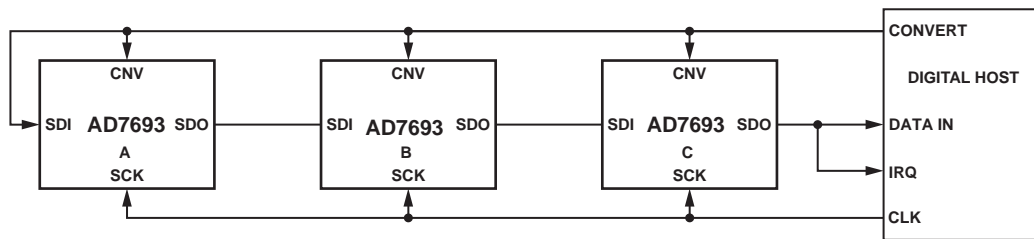
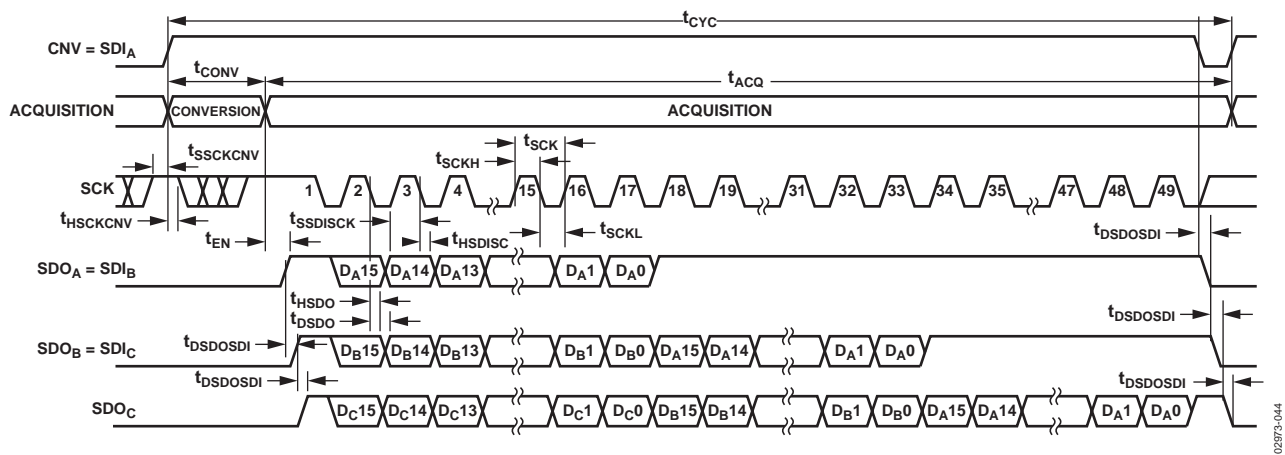

Figure 28. Chain Mode with BUSY Indicator Connection Diagram
Figure 29. Chain Mode with BUSY Indicator Serial Interface Timing
- In the chain mode, if SCK is high during the CNV rising edge (Figure 29).
A connection diagram example using three AD7693s is shown in Figure 28 and the corresponding timing is given in Figure 29.
subsequent data readback. When all ADCs in the chain have completed their conversions, the nearest ADC (ADC C in Figure 28) SDO is driven high. This transition on SDO can be used as a BUSY indicator to trigger the data readback controlled by the digital host. The AD7693 then enters the acquisition phase and powers down. The data bits stored in the internal shift register are then clocked out, MSB first, by subsequent SCK falling edges. For each ADC, SDI feeds the input of the internal shift register and is clocked by the SCK falling edge. Each ADC in the chain outputs its data MSB first, and $16 \times N + 1$ clocks are required to readback the N ADCs. Although the rising edge can be used to capture the data, a digital host using the SCK falling edge allows a faster reading rate and, consequently more AD7693s in the chain, provided the digital host has an acceptable hold time.